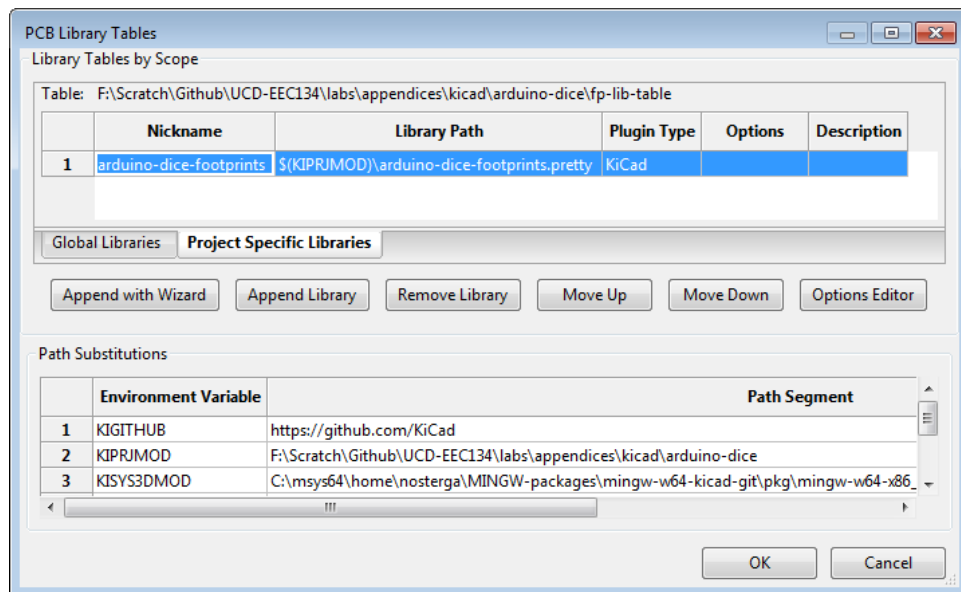

Figure 12: Add a project footprint library.
- e) Select “To the current project only” and click “Finish” to finish adding the footprint library to this project. If you have created a generic library that you want to use across multiple projects, you could select “To global library configuration” option. Fig. 12 shows how the “PCB Library Tables” looks like now. Notice how KiCad replaces the absolute path with the “KIPRJMOD” variable.